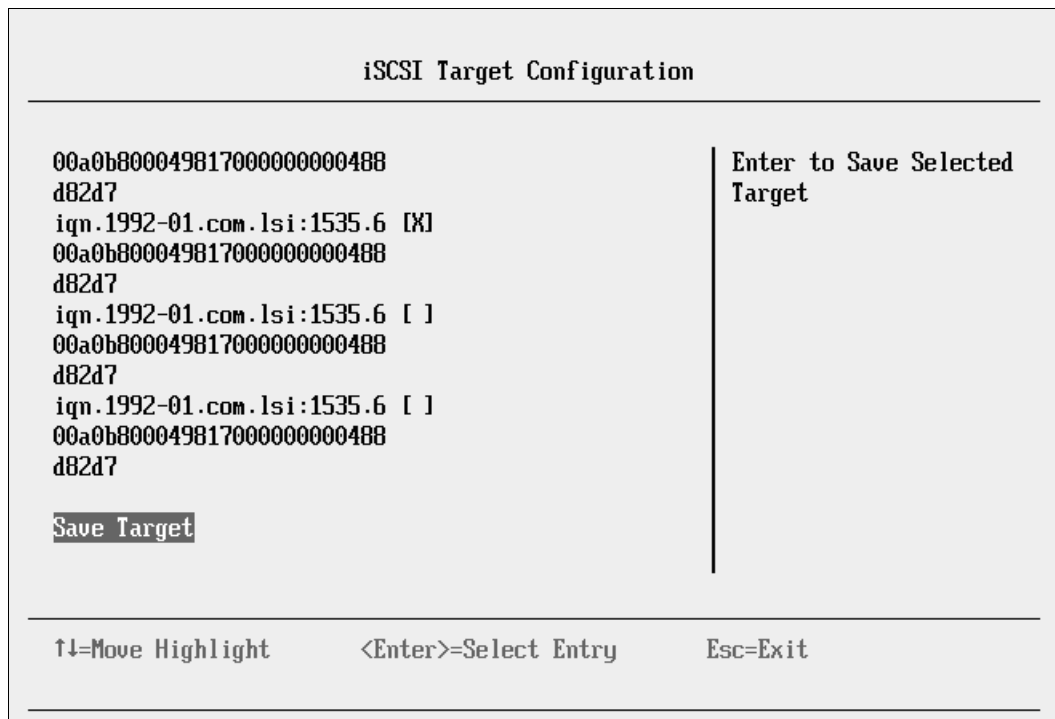

Figure 9-85 Saving the discovered target
- d. Using the arrow keys, move the cursor down to highlight **Save Target**, and then press Enter (Figure 9-85).